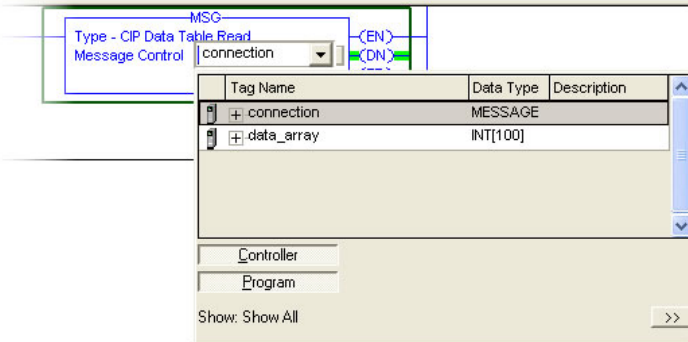

Figure 44: MSG Instruction Tag Assignment
- a) Edit the “Message Control” field on the MSG instruction to use the previously-created “connection” tag. Refer to Figure 44.